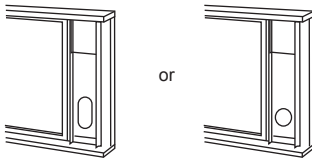

Fig.16
3. Cut the foam seal (adhesive type) to the proper length and attach it on the top of the window. Shown as in Fig.16.